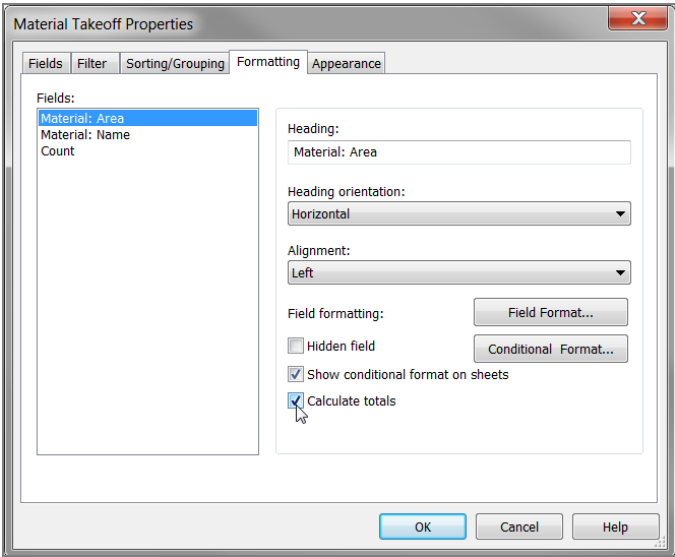

FIGURE 11.29: On the Formatting tab, you can specify Calculate Totals for the Material: Area option.
1. In the Properties dialog box, click the Edit button next to the Formatting row to bring up the Material Takeoff Properties dialog box, shown in Figure 11.29.
2. In the field to the left, select Material: Area (see Figure 11.29).
3. On the right, select Calculate Totals (see Figure 11.29).